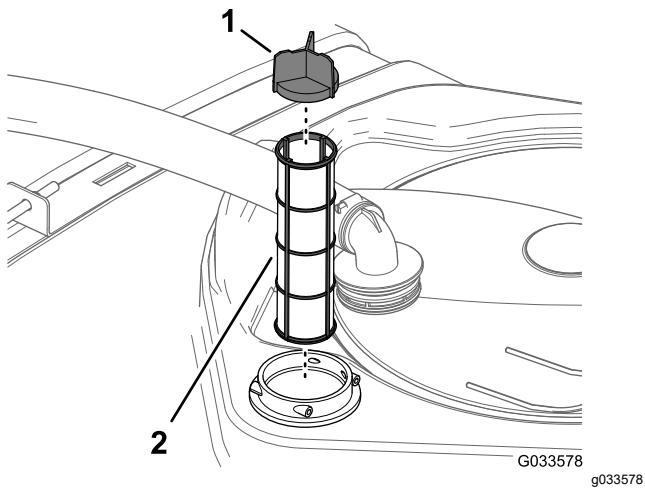

Figure 89
4. Pull the suction strainer out of the filter housing in the tank (Figure 89).